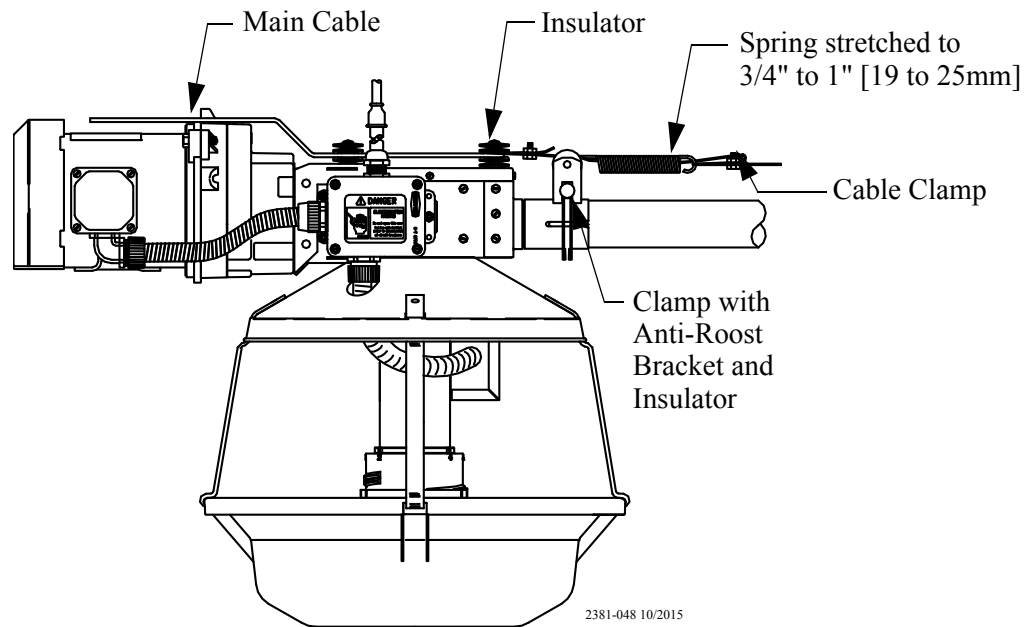

Figure 53. Anti-Roost Installation at the Control Unit
9. At the control unit, after clamping the cable to the spring, cut the cable 8" to 10" (200 to 250 mm) longer than necessary. Feed the end of the cable through the center of the spring, around the first insulator on the control unit, and clamp the cable using the cable clamp supplied with the control unit, see **figure 53**.
10. Install the wire from on the control unit insulators. Be sure the guard snaps into the retainers molded into the insulators, see **figure 53**.